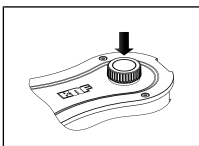

Fig.5: Switching the pump on/off
- Switch on the pump by pushing the rotary/push knob (see Fig. 2/3, see Fig. 5).
- Switch off the pump with the rotary/push knob (see Fig. 5).